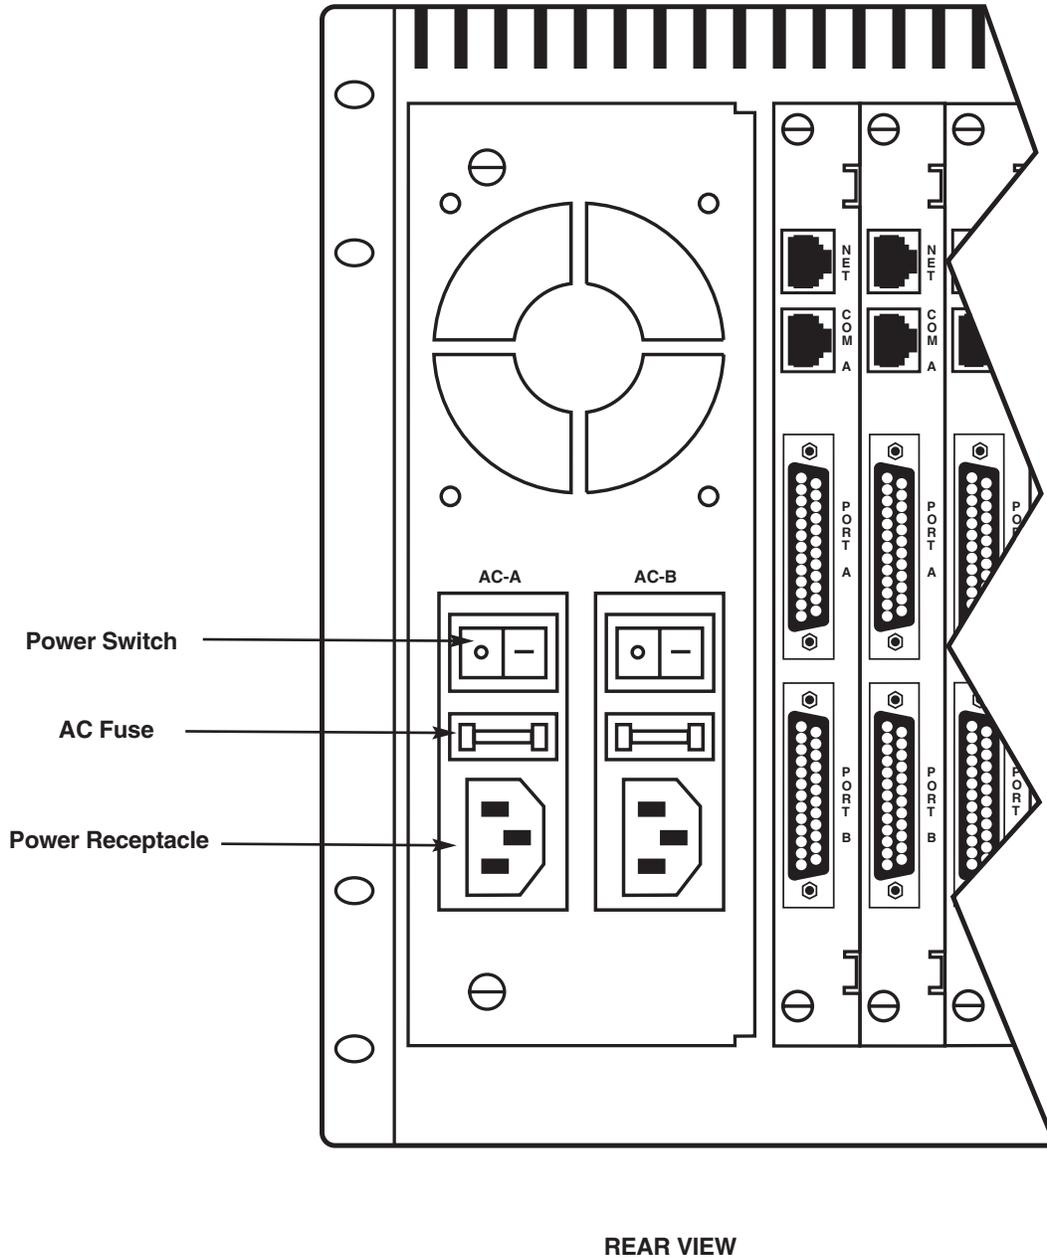

Figure 3-6. Powering Up the AC Chassis.
1. Make sure that the power switch, located above the AC-A power receptacle, has been placed in the Off (0) position. See Figure 3-6.
2. Plug the female end of the 7-foot (2.1-m) VAC power cord into the AC-A power receptacle. See Figure 3-6. Plug the male end of the power cord into source power (wall receptacle or a power strip).
3. Place the power switch, located above the AC-A power receptacle, into the On (1) position. See Figure 3-6. Confirm that the Power Supply Module's green PWR LED is lit.